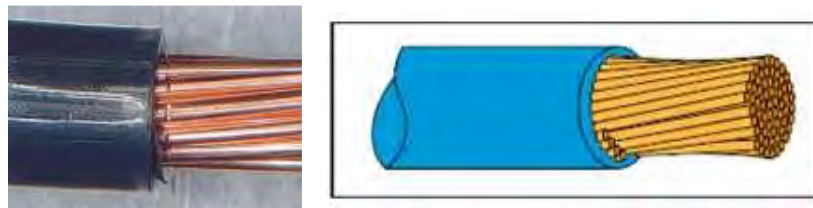

Figure 39
1. Broken, nicked, or cut strands as listed below and shown in Figure 39.